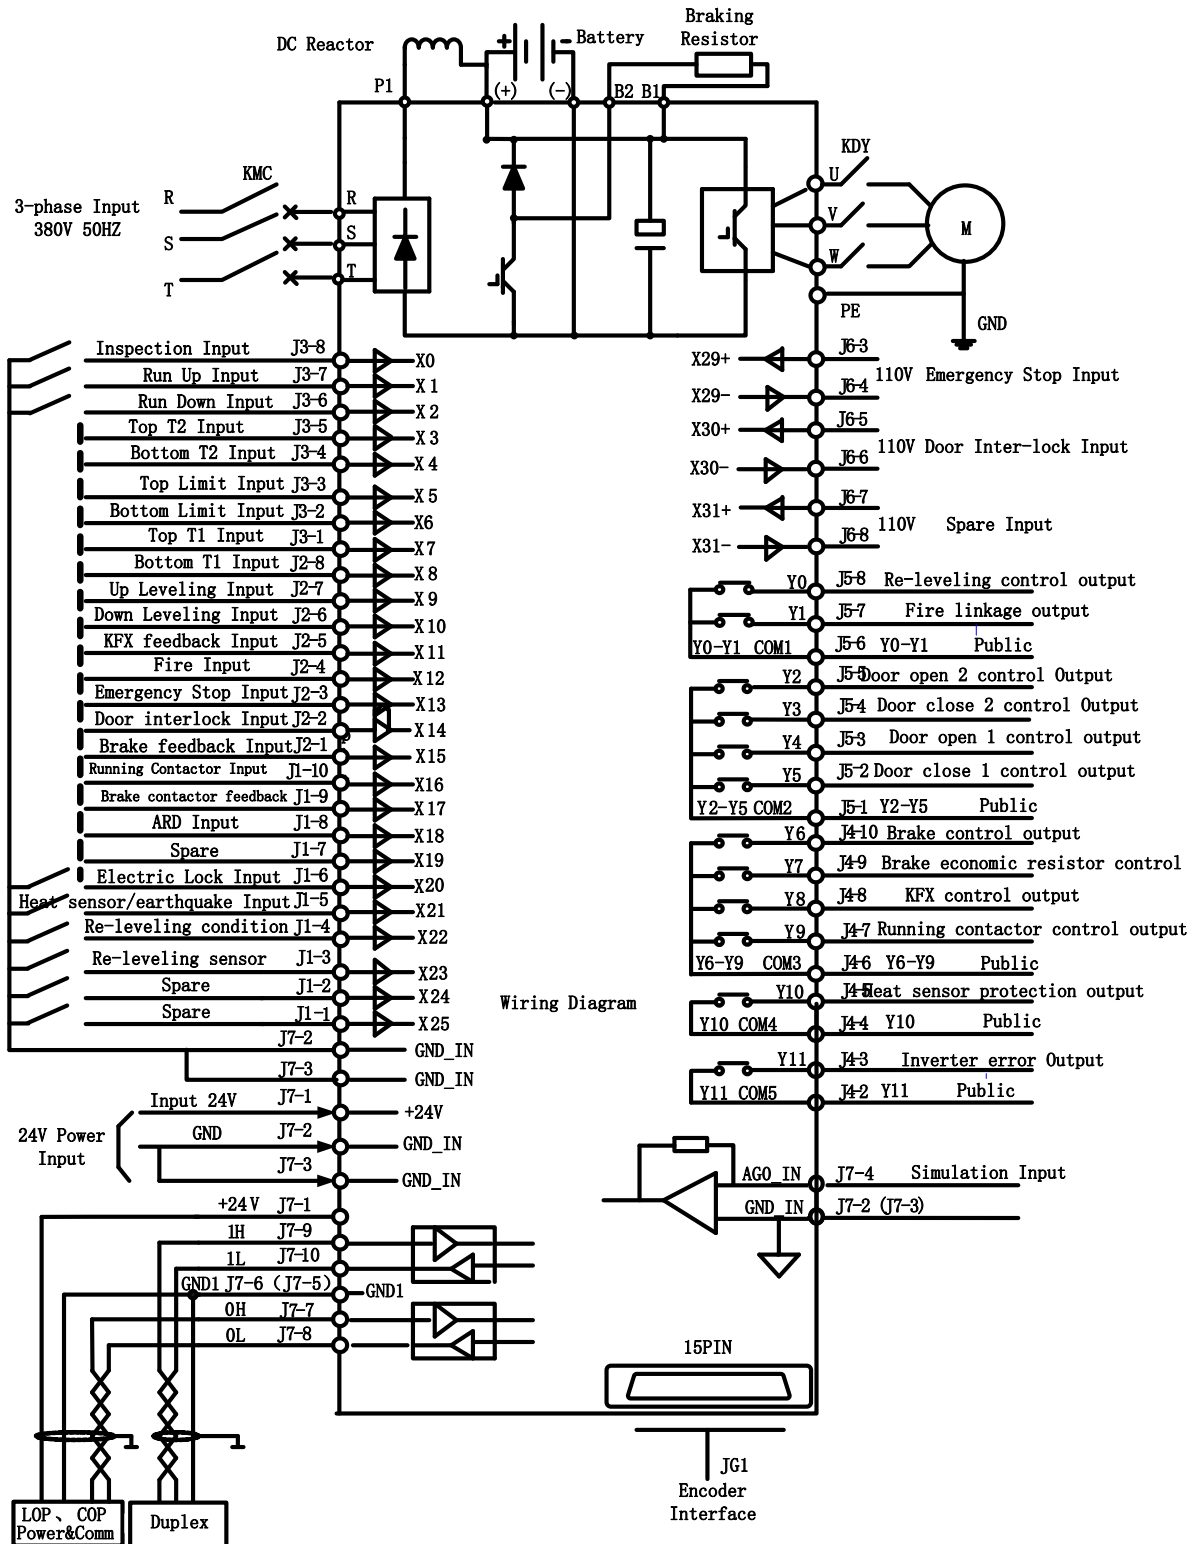

Figure 3.1 Connection Diagram for Elevator integrated controller
3.3.2. Terminal Connection for Control Circuit (Figure 3.1)